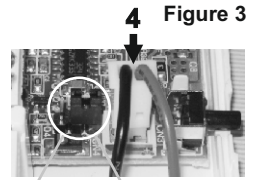

Figure 3
there is an option to select the maintained or non-maintained operation by placing the jumper to the appropriate place according to the figure 3 (page 2).
4. Connect the battery's cable with the appropriate terminal (figure 3).